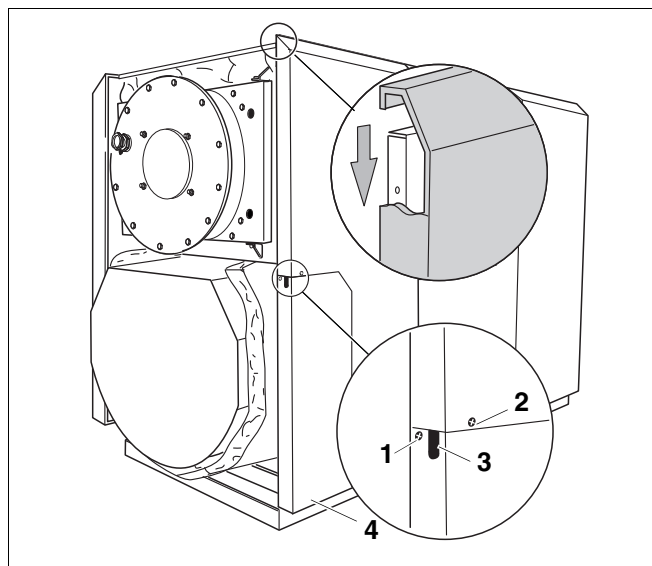

Fig. 22 Hook side panels at the top
- Lift side panels and hook the folded edge at the top into the side connection plates (Fig. 22).